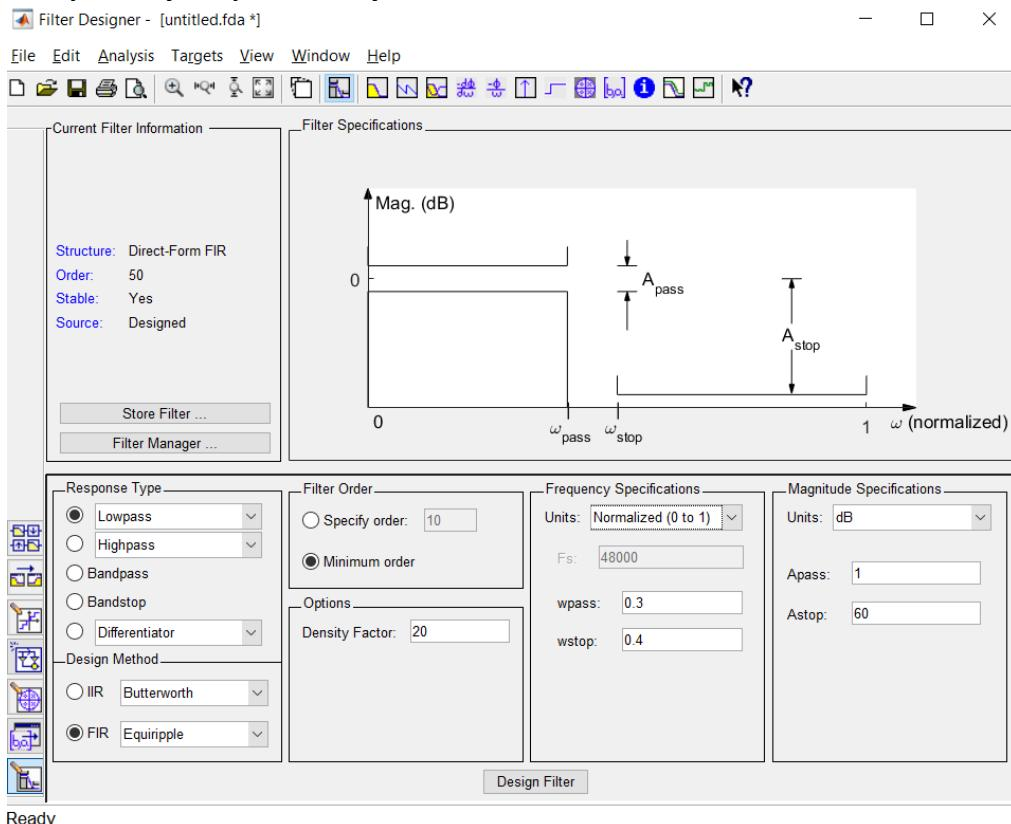

Fig. 1. Filter Design & Analysis Tool.
- a) Run ***fdatool*** to design filters by writing “***fdatool***” to the ***Command Window*** in ***MATLAB***. After you press Enter, ***Filter Design & Analysis Tool*** window appears as shown in Fig. 1.
- b) Design a ***FIR lowpass equiripple*** filter. The ***passband*** and ***stopband*** frequencies are ***0.3π*** and ***0.4π*** respectively. Passband and stopband ripple sizes are ***1dB*** and ***-60dB*** respectively. These parameters are selected as shown in Fig. 1. Note that when Normalized (0 to 1) option is selected, you should enter ***0.3*** and ***0.4*** as passband and stopband frequencies. Here, the discrete frequency π is normalized to 1. Plot the ***magnitude and phase characteristics*** of this filter by clicking on ***Design Filter***. Note that this filter is optimum in minimax sense. Obtain the filter coefficients using the ***fdatool***. Is this a ***symmetric filter***? Is this a ***linear-phase filter***? Plot the pole-zero plot using the ***fdatool*** item. ***Comment*** on the placement of zeros. Please do not forget to ***attach magnitude & phase characteristics and plot of filter coefficients and pole-zero plot to your preliminary work***.